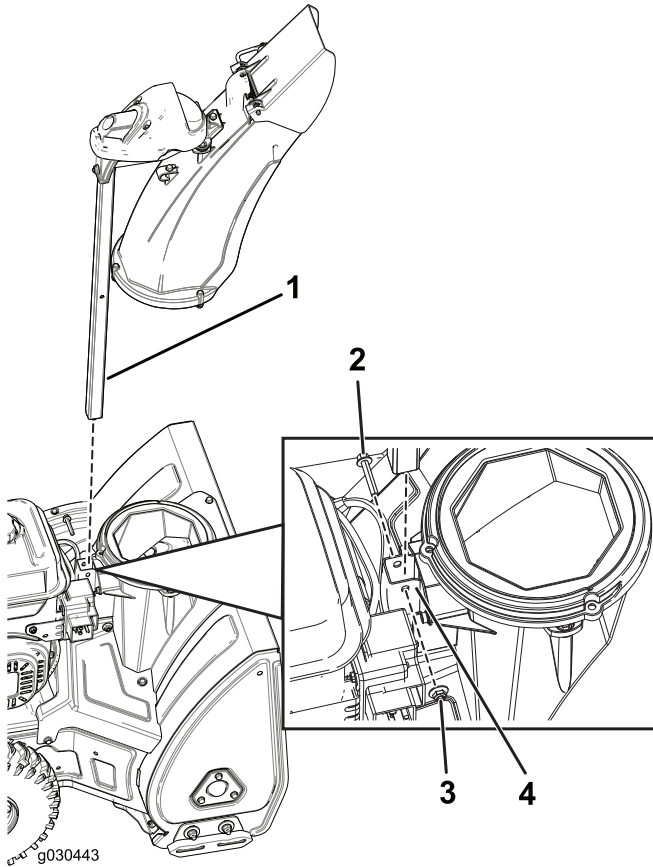

Figure 5
1. Insert the chute post through the bracket into the base of the machine and secure it using a bolt and a locknut (Figure 5).